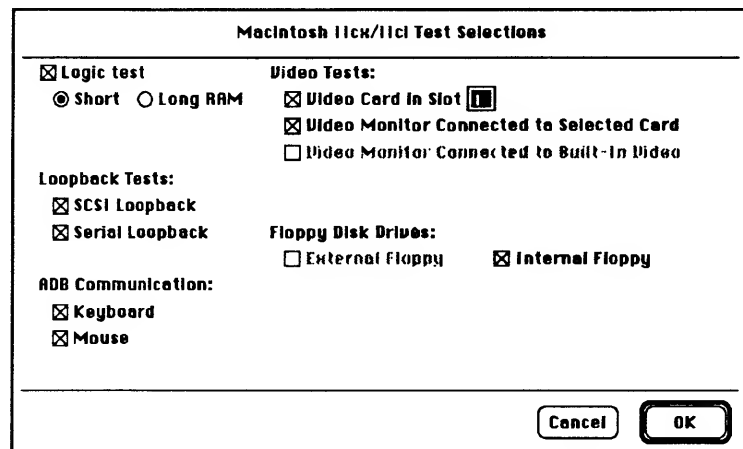

Figure 3-3 Test Selections Window
1. **Test Selections** – the following window (**Figure 3-3**) appears when you choose **Test Selections**: